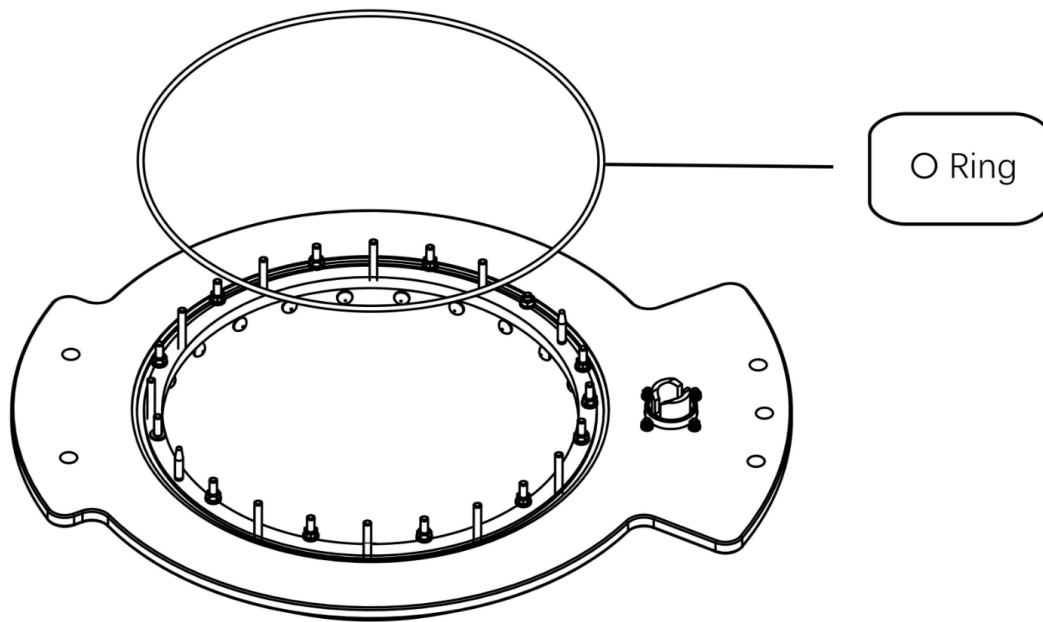

Figure 4.2.9
4.2.5.1 Before assembling the bell-type transformer tank cover, clean the sealing surfaces of the supporting flange of the on-load tap-changer oil compartment. Place the sealing ring on the supporting flange (Figure 4.2.9). Pull out the adjusting spacers.